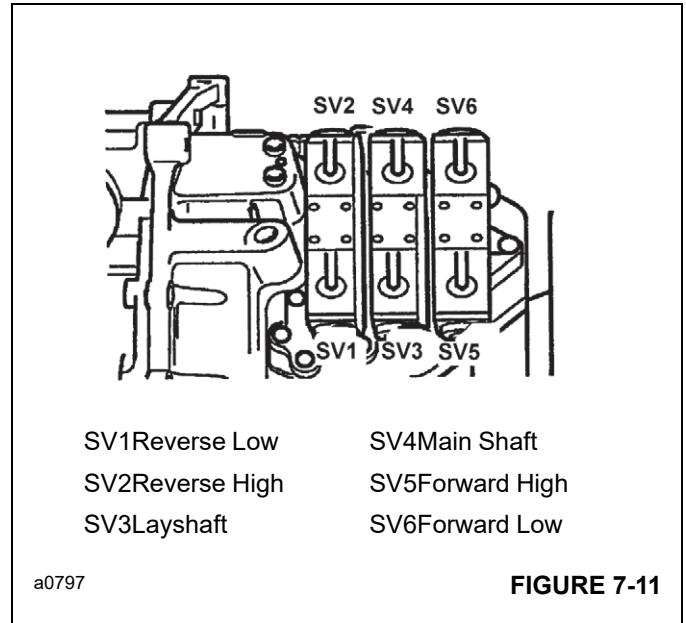

FIGURE 7-11
5. Identify the two solenoids which give the required gear Figure 7-11.